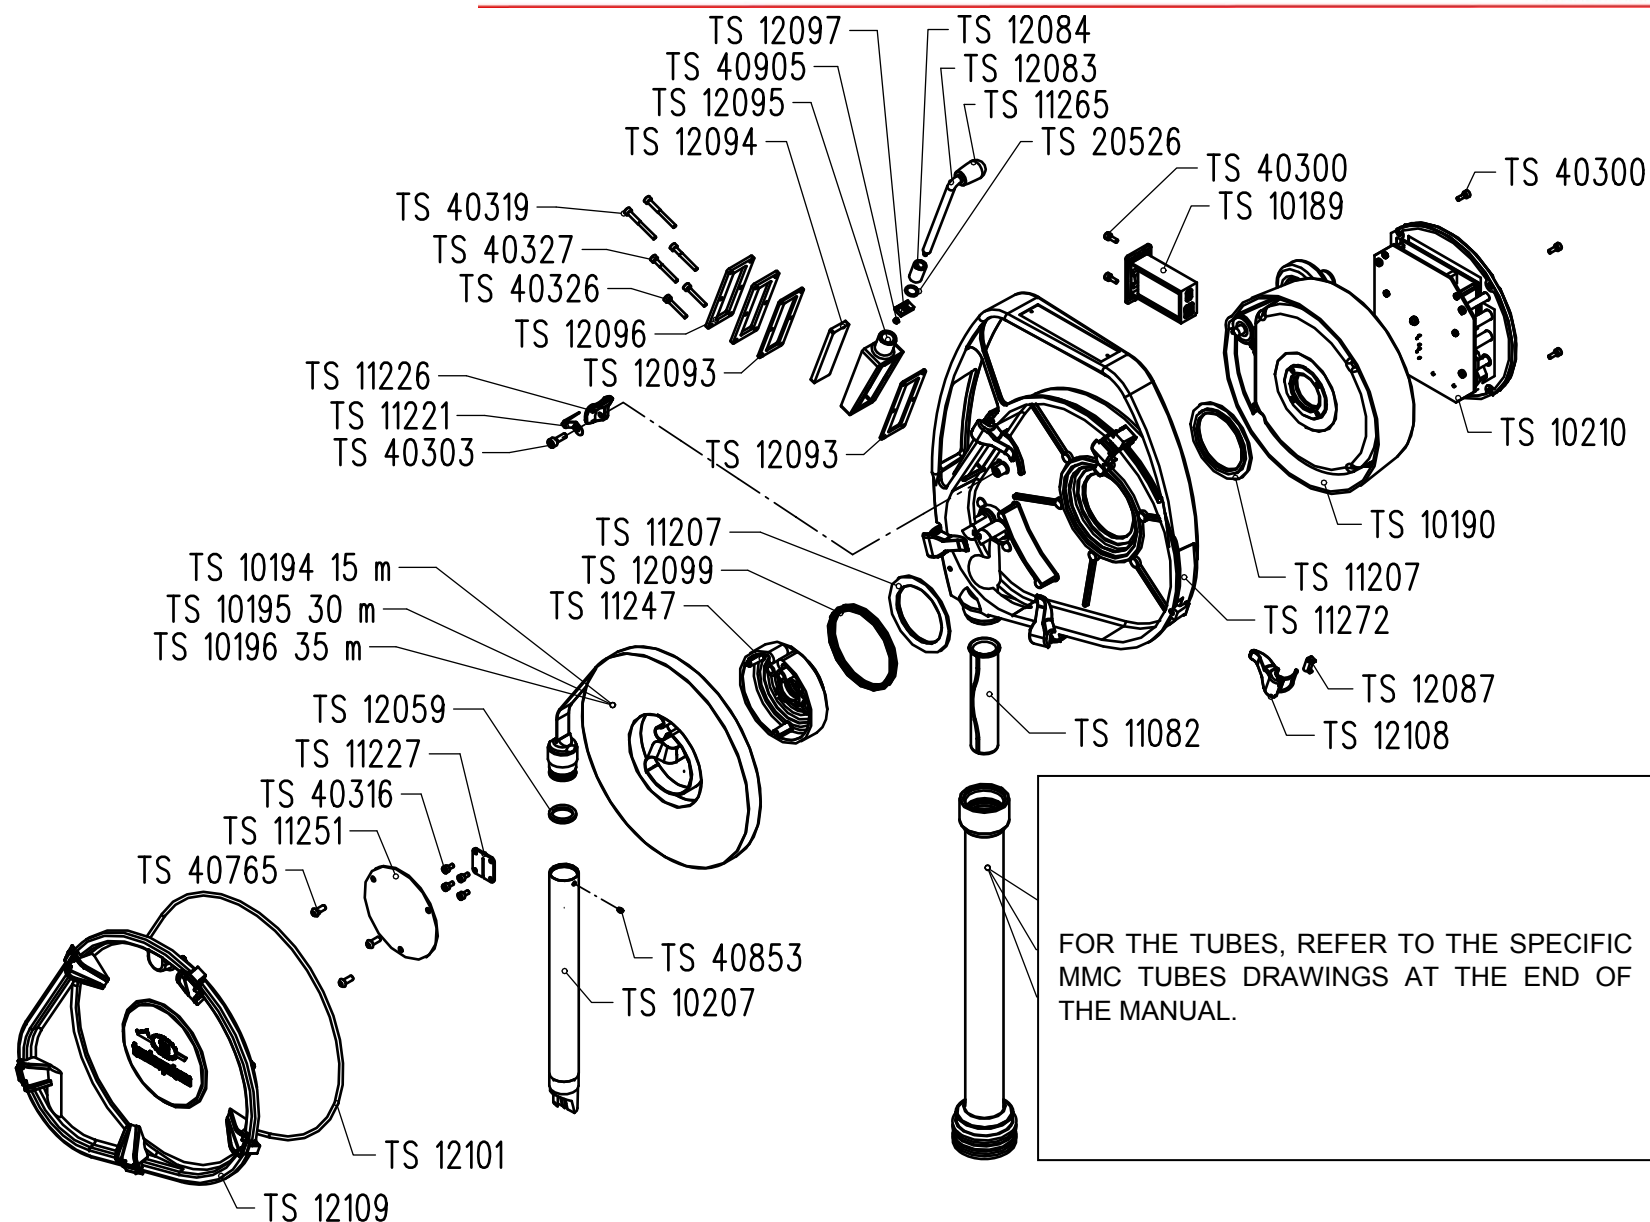

Figure 13-1 : general assembly, list of the main spare parts
- Figure 13-1 : general assembly, list of the main spare parts